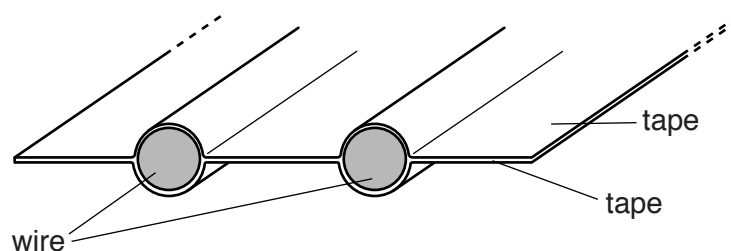

Fig. 2.1 (not to scale)
- Trim excess tape from the ends to give the appearance of Fig. 2.1.